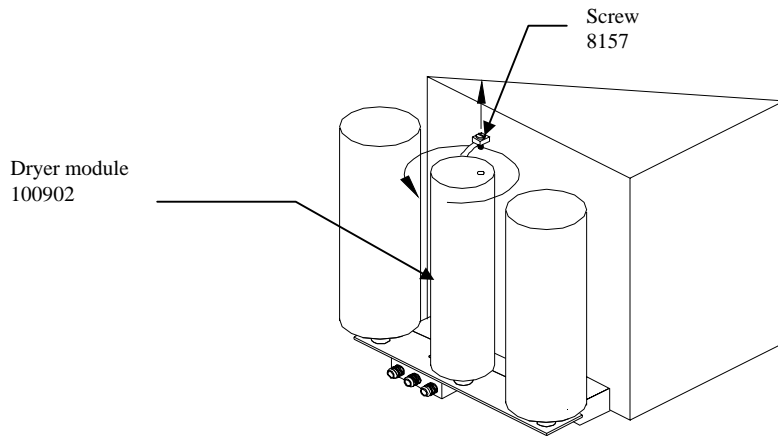

Figure 3
- The air dryer module was designed to be replaced without having to disassemble any of the major components. Using a standard screwdriver, unscrew the small screw that attaches the hose on to the top of the canister (figure 3).